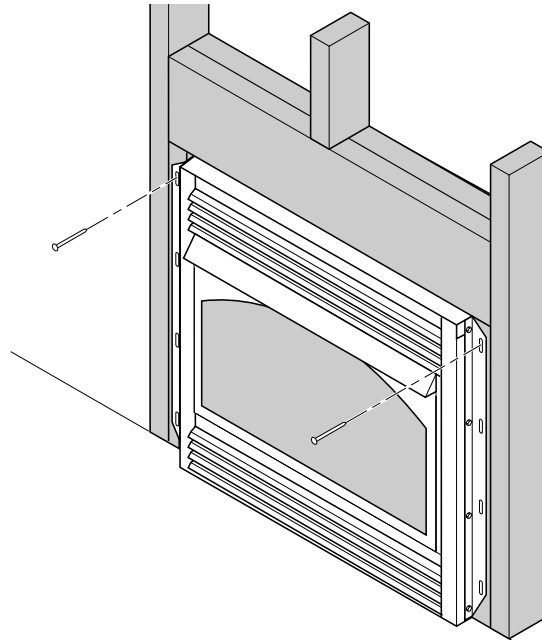

Figure 14 - Attaching Nailing Flange Accessory
9. Attach fireplace to wall studs using nails or wood screws through holes in nailing flange (see Figure 14).